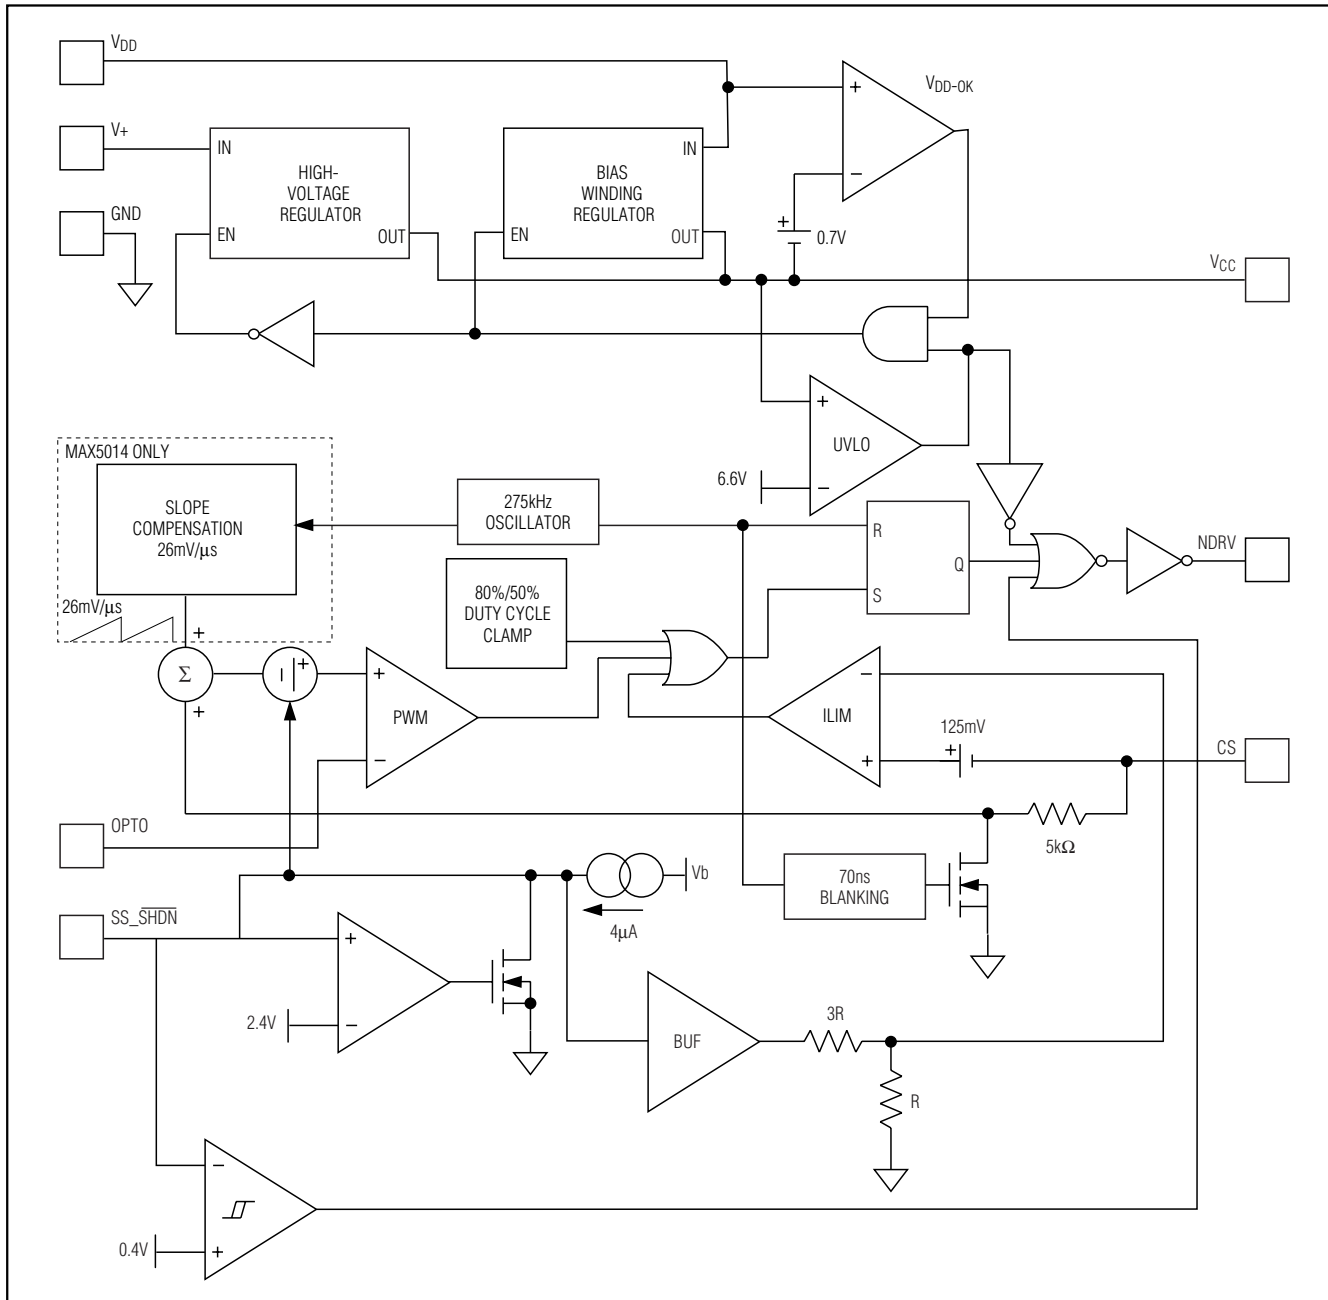
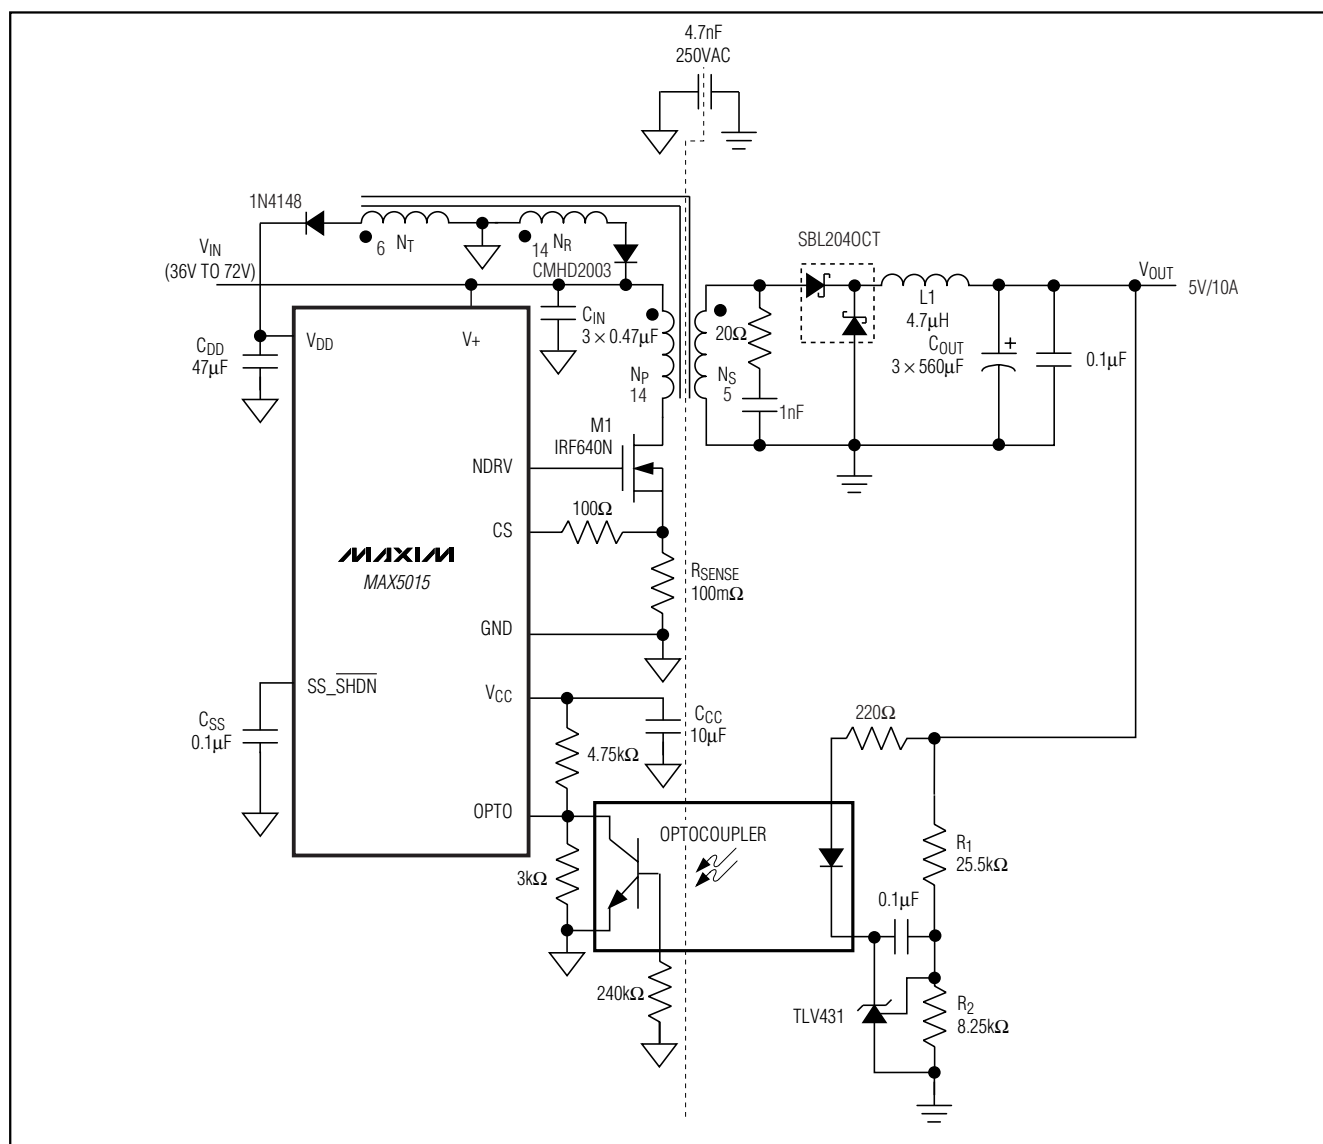
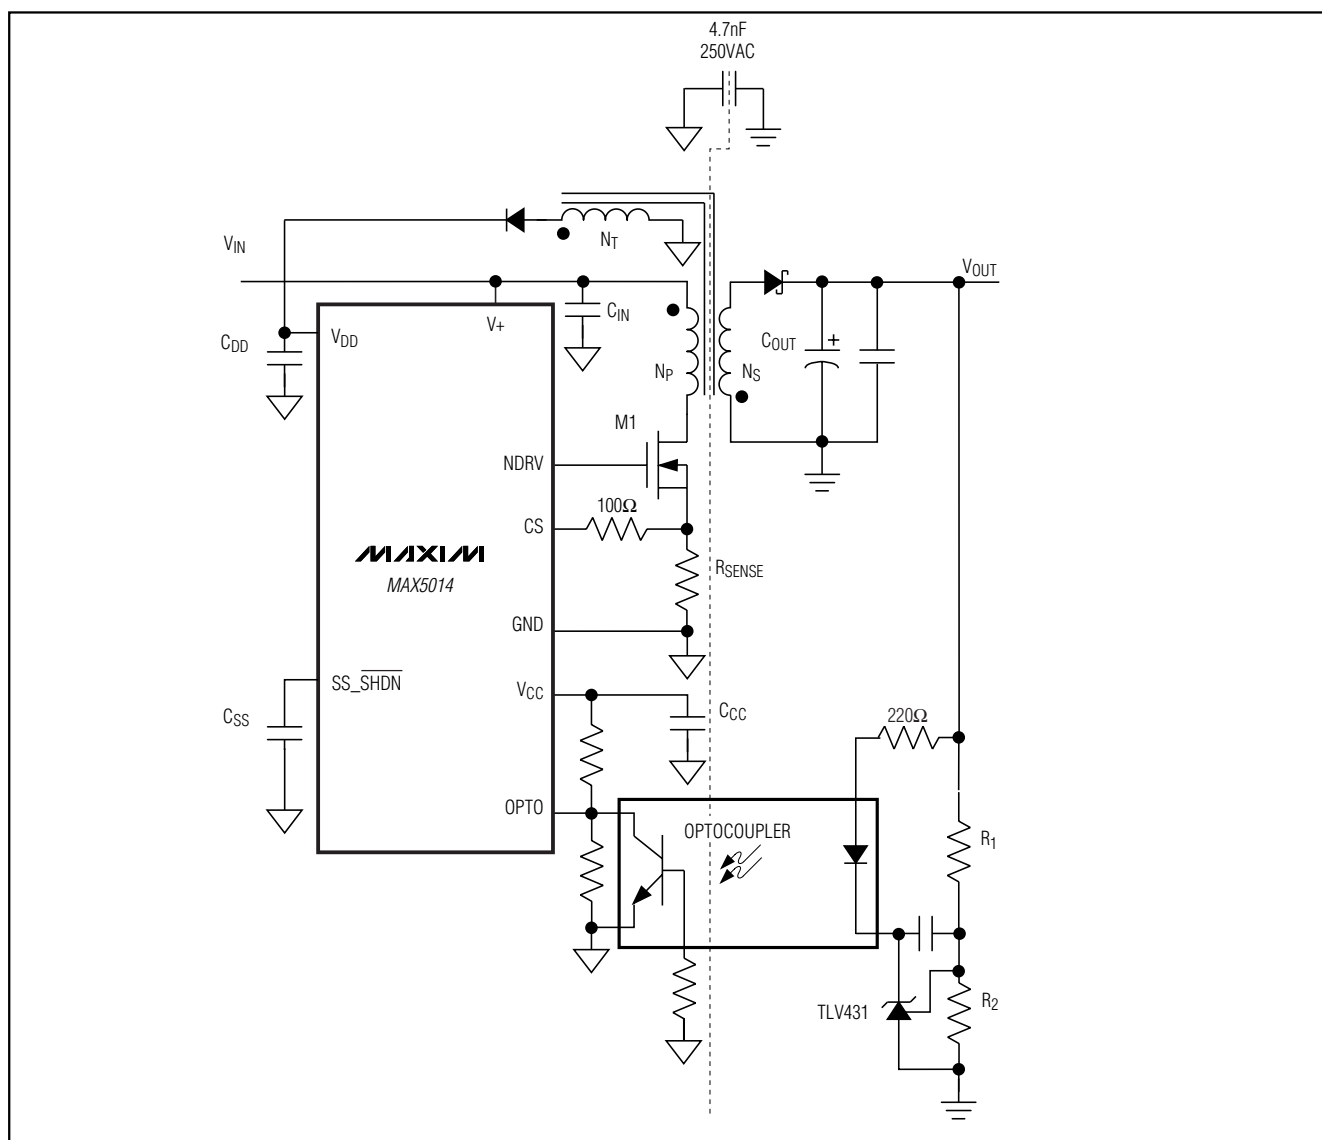

Figure 1. Functional Diagram
Figure 2. Forward Converter
Figure 3. Flyback Converter
Use the MAX5014/MAX5015 PWM current-mode controllers to design flyback- or forward-mode power supplies. Current-mode operation simplifies control-loop design while enhancing loop stability. An internal high-voltage startup regulator allows the device to connect directly to the input supply without an external startup resistor. Current from the internal regulator starts the controller. Once the tertiary winding voltage is established the internal regulator is switched off and bias current for running the IC is derived from the tertiary winding. The internal oscillator is set to 275kHz and trimmed to ±10%. This permits the use of small magnetic components to minimize board space. Both the MAX5014 and MAX5015 can be used in power supplies providing multiple output voltages. A functional diagram of the IC is shown in Figure 1. Typical applications circuits for forward and flyback topologies are shown in Figure 2 and Figure 3, respectively.
Isolated voltage feedback is achieved by using an optocoupler and a shunt regulator as shown in Figure 2. The output voltage set point accuracy is a function of the accuracy of the shunt regulator and feedback resistor-divider tolerance.
where C_{SS} is the soft-start capacitor as shown in Figure 2.
The current-sense (CS) comparator and its associated logic limit the peak current through the MOSFET. Current is sensed at CS as a voltage across a sense resistor between the source of the MOSFET and GND. To reduce switching noise, connect CS to the external MOSFET source through a 100Ω resistor or an RC low-pass filter (Figures 2, 3). Select the current-sense resistor, R_{SENSE} according to the following equation:
The following is a general procedure for designing a forward converter (Figure 2) using the MAX5015.
The circuit in Figure 2 was designed as follows:
where V_{REF} is the reference voltage of the shunt regulator, and R_1 and R_2 are the resistors shown in Figures 2 and 3.